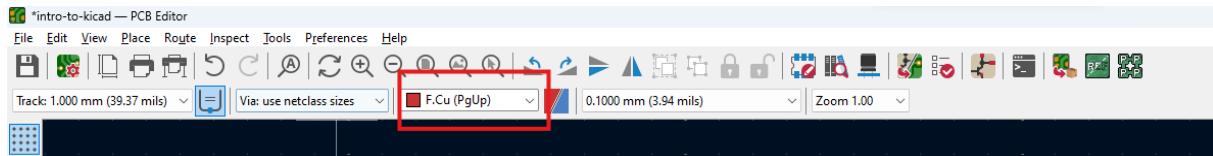

Figure 3: Layer selection drop down
1. Click the layer select drop down (seen in Fig 3).